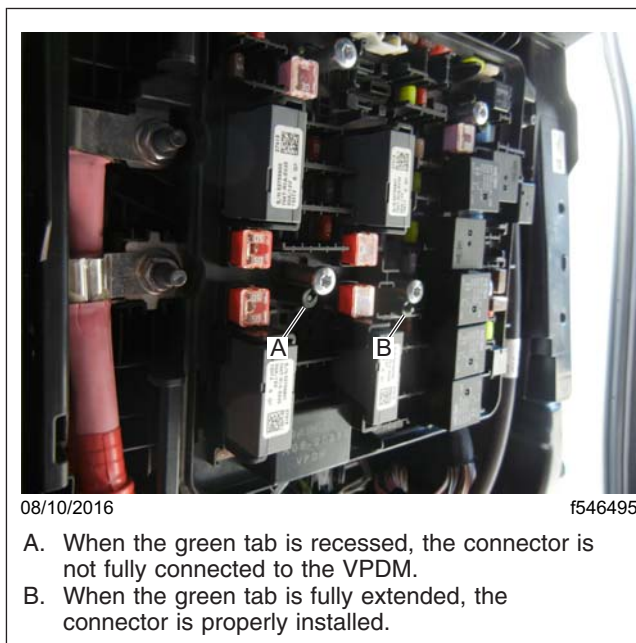

Fig. 10, Tightening the Captured Screws
17. Install the J5 connector onto the VPDM. Tighten the captured screw on the front of the VPDM. The screw has a green tab next to it, that extends when the screw is completely tightened. See Fig. 10.